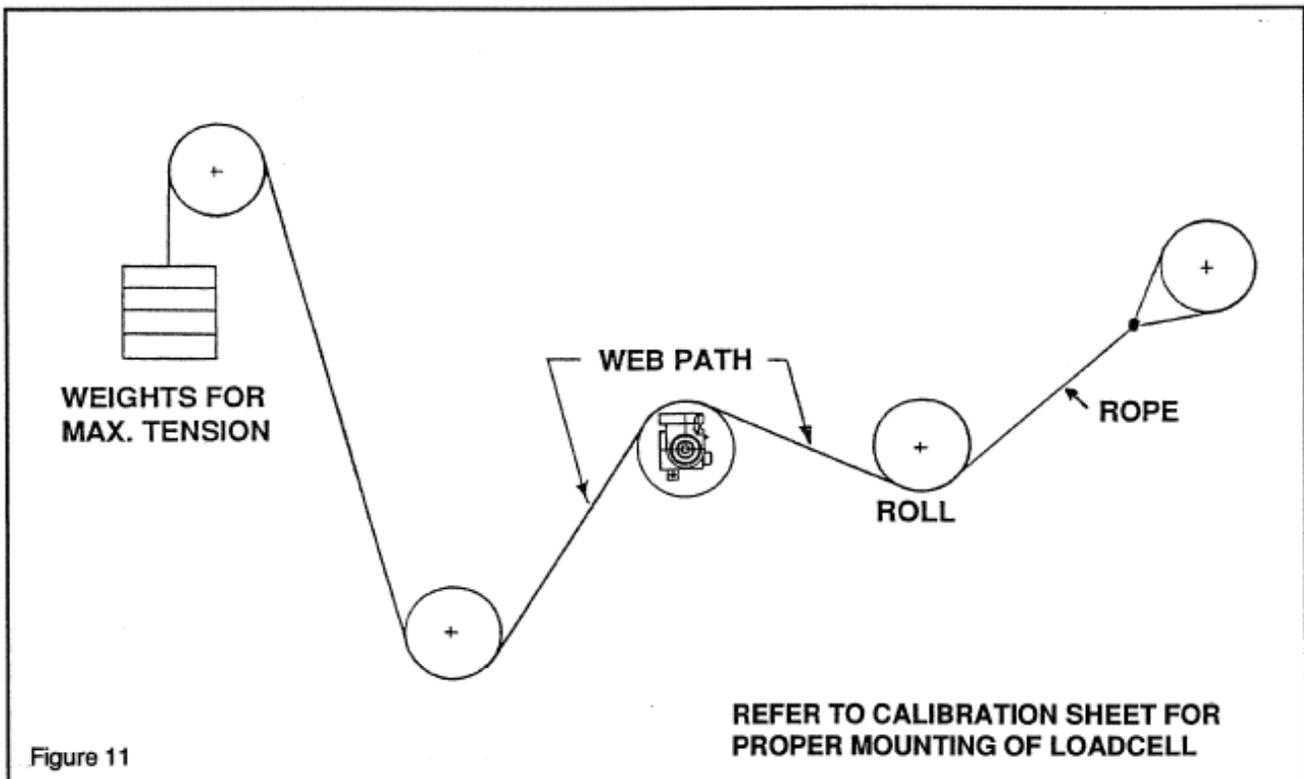

Figure 11
2. With one end of the rope secured, hang a known weight, equally over the roll so that the total tension is equal to the maximum strip tension specified on the calibration sheet, at the other end. (See Figure 11)